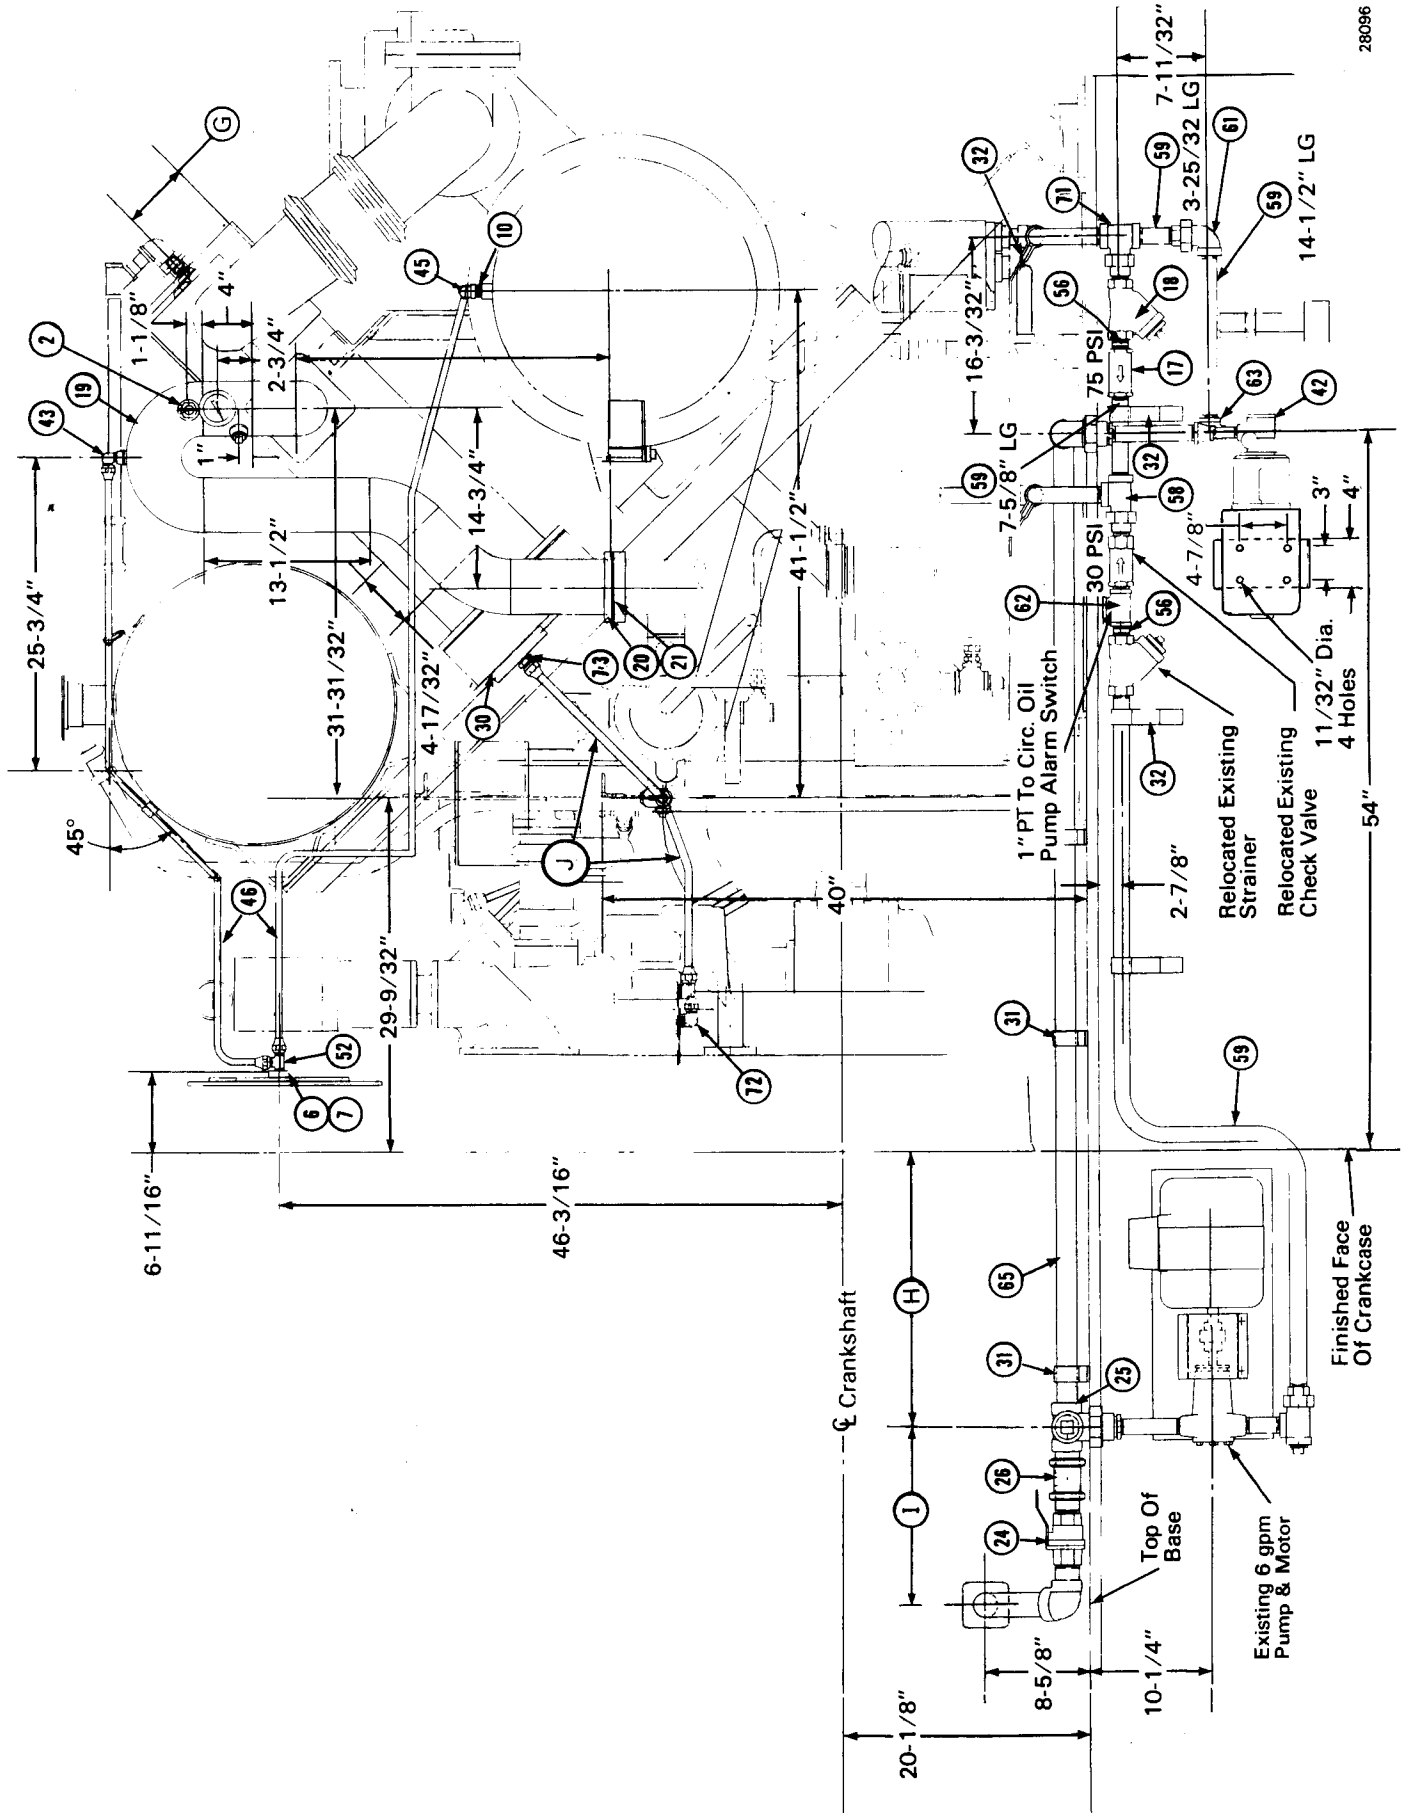

Fig.3 - "S" Unit Piping Application, Right Side View
Dimensions For Figs. 3 Through 5
locating and installing components and piping are shown on the application drawings, Figs. 3 through 7, and on Table 1. Numbers in parentheses or circles provide a reference to items on the Material Required list.
3. Add a 3 gpm pump (42) as shown in Figs. 3 and 4. Mount the pump and motor assembly on the
skid no higher than the top of the skid or farther than 70" from the finished face of the crankcase, using the centerline of the pump impeller as a reference. The pump motor mounts on a steel base which appears in Fig. 10. Fabricate this base from 1/4" sheet steel according to the dimensions shown in Fig. 10. Use a steel similar to material specification 3 for the base. Weld the base to the skid as shown in Fig. 4. The skid is constructed from steel conforming to Material Specification 3. As shown in Fig. 3, the recommended location of the pump is 54" from the crankcase face and 14-1/2" below the top of the skid. Deviations from the recommended installation require slight alterations in the piping to accommodate the variance. The 6 gpm pump remains in its original location.
box, so that during standby the accessory rack will remain full of oil with no significant air pockets. Reuse the temperature well and gauge. Install a sight glass in the line as shown in Figs. 3 and 4.
7. Run 1/2" O.D. steel tube vent line (46) as shown in Figs. 3, 4, 5, and 6. Avoid pockets or traps which will not drain to either end. Use clamps (13 or 16) to minimize vibration. Locate and connect the vents on the engine as shown in Fig. 3.
8. Relocate the existing 30 psi check valve to the side of the skid as shown in Fig. 3.
9. Run the gallery supply line (J) as shown in Figs. 3 and 4. The diameter and length of this line are critical for proper operation, therefore, adhere to the provided dimensions. In the center of the existing flange on the lube oil cooler, drill and tap for a 1/2" PT. Run the line from the tapped flange on the oil cooler to the bottom of the main bearing pressure pump discharge elbow. Fig. 7 shows the gallery fill line application for a right hand rotation engine.